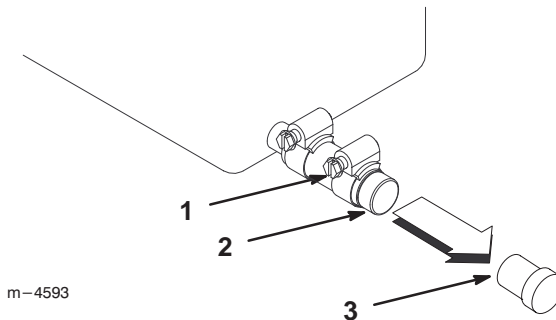

Figure 25
4. Place a pan under the oil drain tube (Fig. 25).
5. Loosen the clamp and remove the plug (Fig. 25).